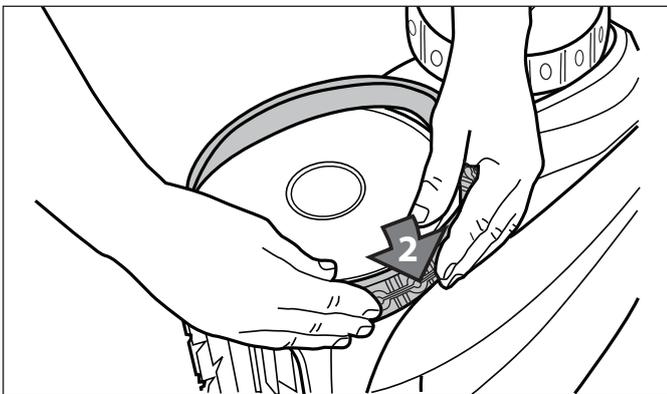

Figure 38. Start on One Side of the Tyre
4. Push one side of the tyre on to the wheel and fit the rib of the tyre in the groove of the wheel (Figure 38).